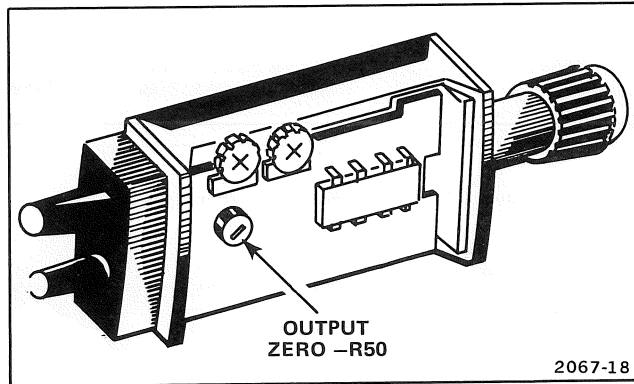

Figure 6-2. Output zero adjustment location.
h. ADJUST—R50 (see Fig. 6-2) to move the trace back to the center horizontal graticule line.